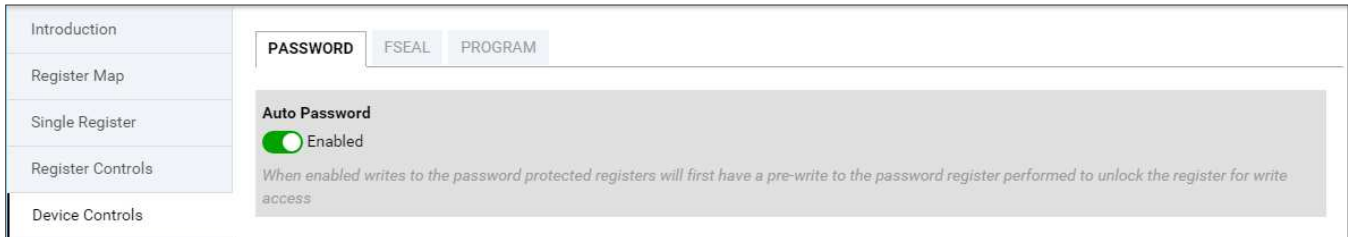

Figure 11. Auto Password Write Enabled
- Start by navigating to the *Device Controls* tab of the IPG-UI and verify that the Auto Password feature is Enabled, as shown in Figure 11.